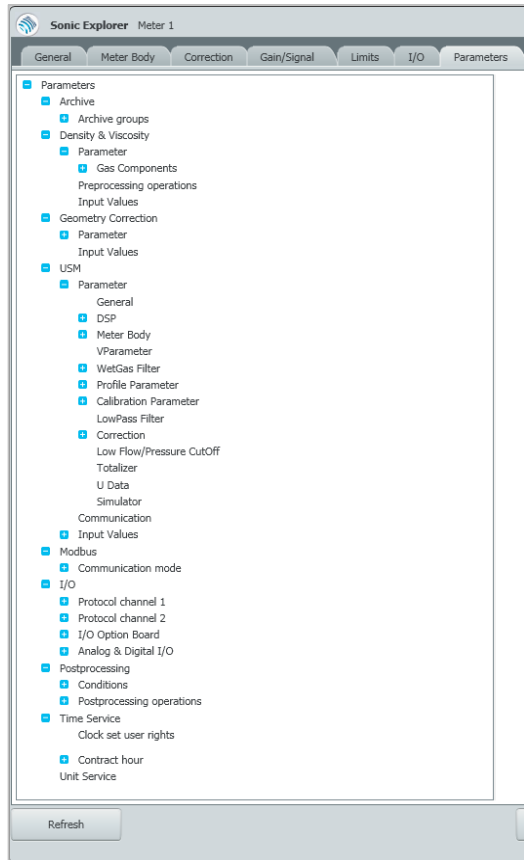

Figure 19-9: Parameters Tab
- ▶ Navigate using the blue **+** or minus **-** boxes to open more or less configuration options. See Figure 19-9.